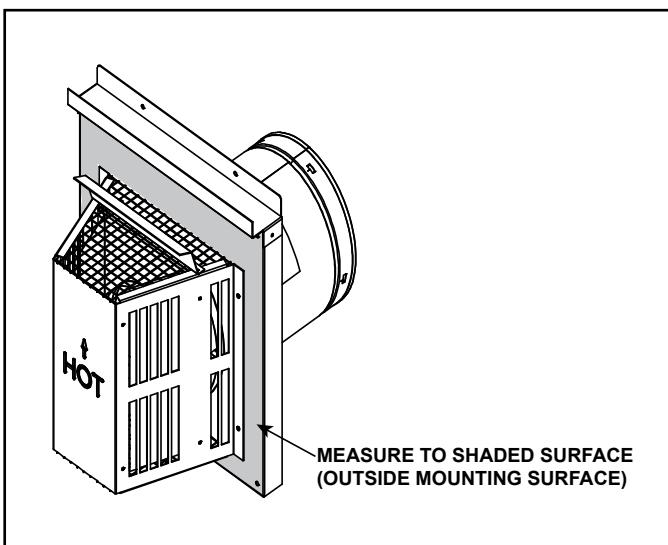

Figure 4.6 Measure to Outside Mounting Surface
- Horizontal terminations are measured to the outside mounting surface (flange or termination cap) (see Figure 4.6).